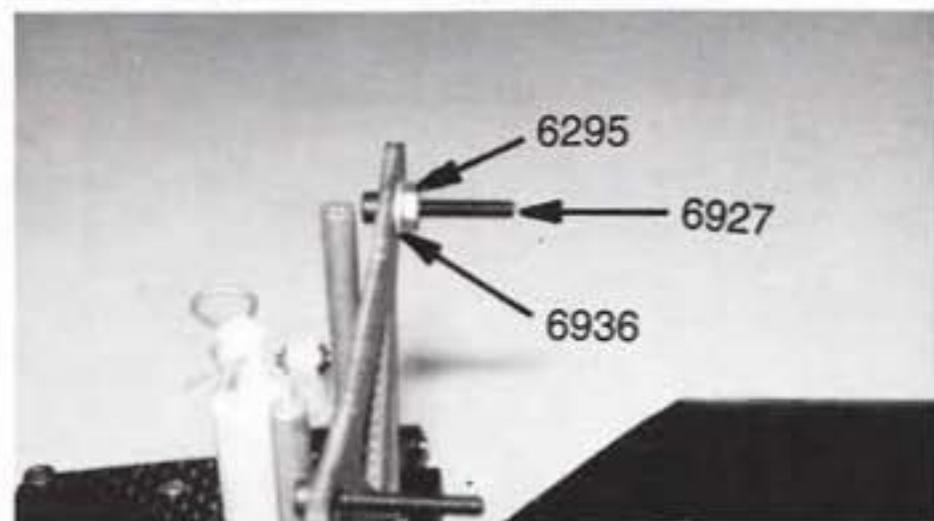

Fig. 130
□ **Figs. 130 & 131** (1) From bag #6-9 remove two #6927 4-40 x 3/4" SHCScrews, two #6936 #4 aluminum flat washers, and two #6295 4-40 plain nuts. (2) There are now four holes in the top of the rear shock strut. Screw the 4-40 x 3/4" SHCScrews into the second hole from the inside of the shock strut, from the back side as shown. (3) Now install one of the #6936 #4 flat washers on the front, and then (4) thread on the #6295 4-40 plain nut. (5) Tighten the screws and nuts. (6) Next install one of the #6473 nylon shock bushings, from bag #6-9, onto each screw (see fig. 131), the flange of the bushing against the 4-40 plain nut.